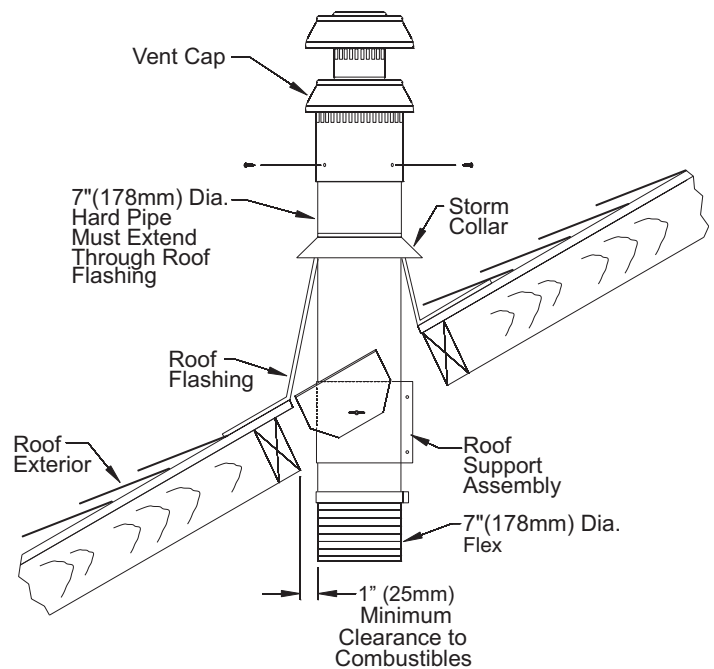

Figure 34
19. Once the lower connections are made and the flex pipe is secured with support bands as required (3 feet minimum between supports) then the roof flashing can be installed. **See Figure 34.**